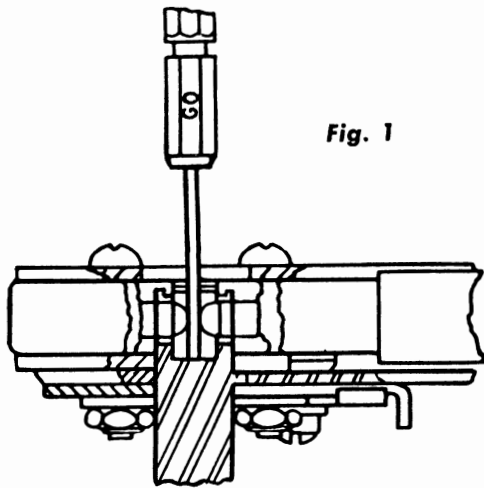

Fig. 1
a. "GO" GAUGING – Close tool to fully closed (stop) condition using normal hand pressure (approximately 50 lbs.). Insert "GO" gauge pin into indenter opening. Gauge should pass through indenter opening (Fig. 1). Upon release, tool handles should return to fully open condition.